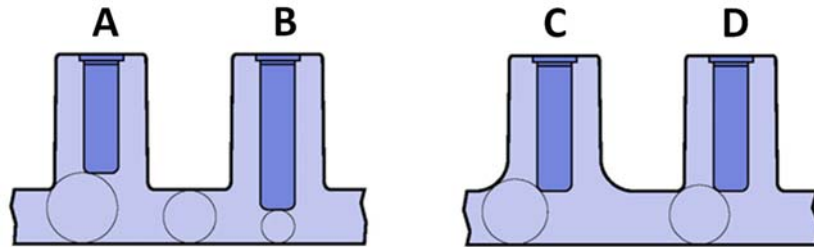

Figure 1: Four different boss core depth.
- (1). (a). **Figure 1** shows **TWO (2)** design considerations for the boss system. Choose the best boss core depth and provide suitable explanations to support your comparison.